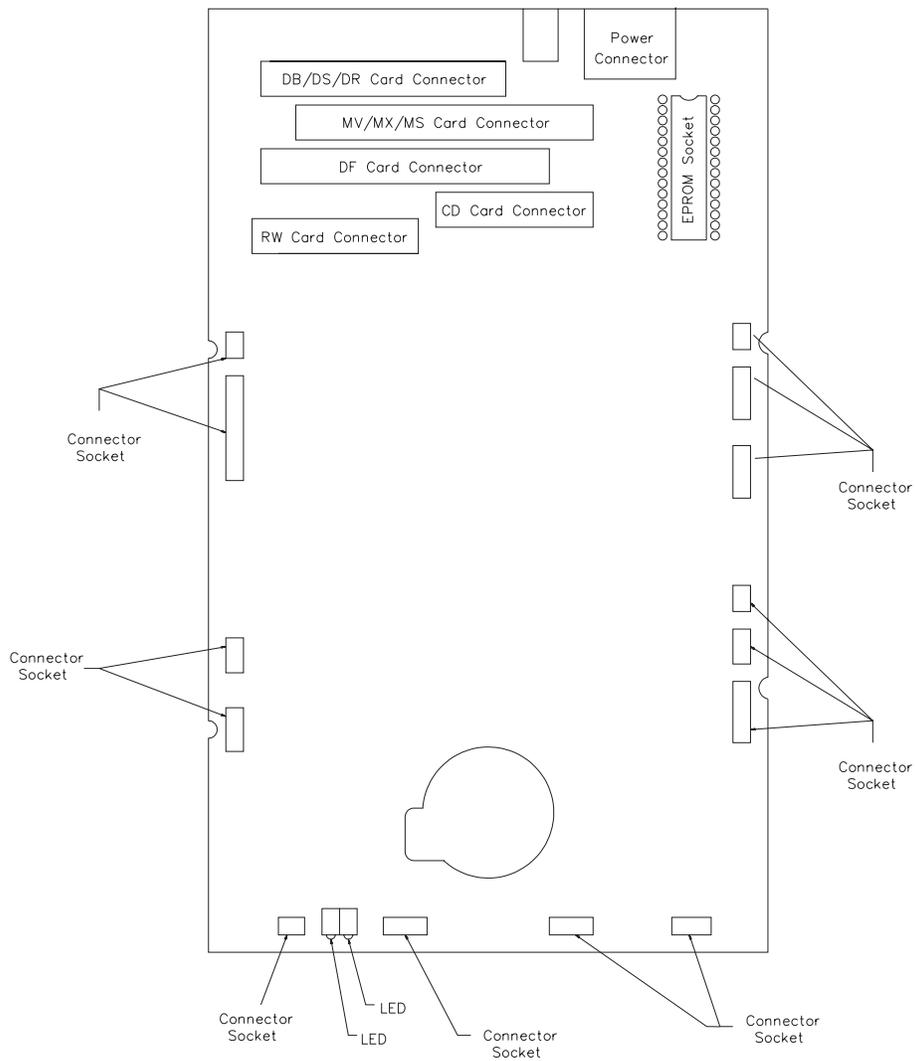

Figure 11-1
1. Place the EXB-8200 on the work surface with the front facing you. Locate the EPROM (see Figure 11-1).